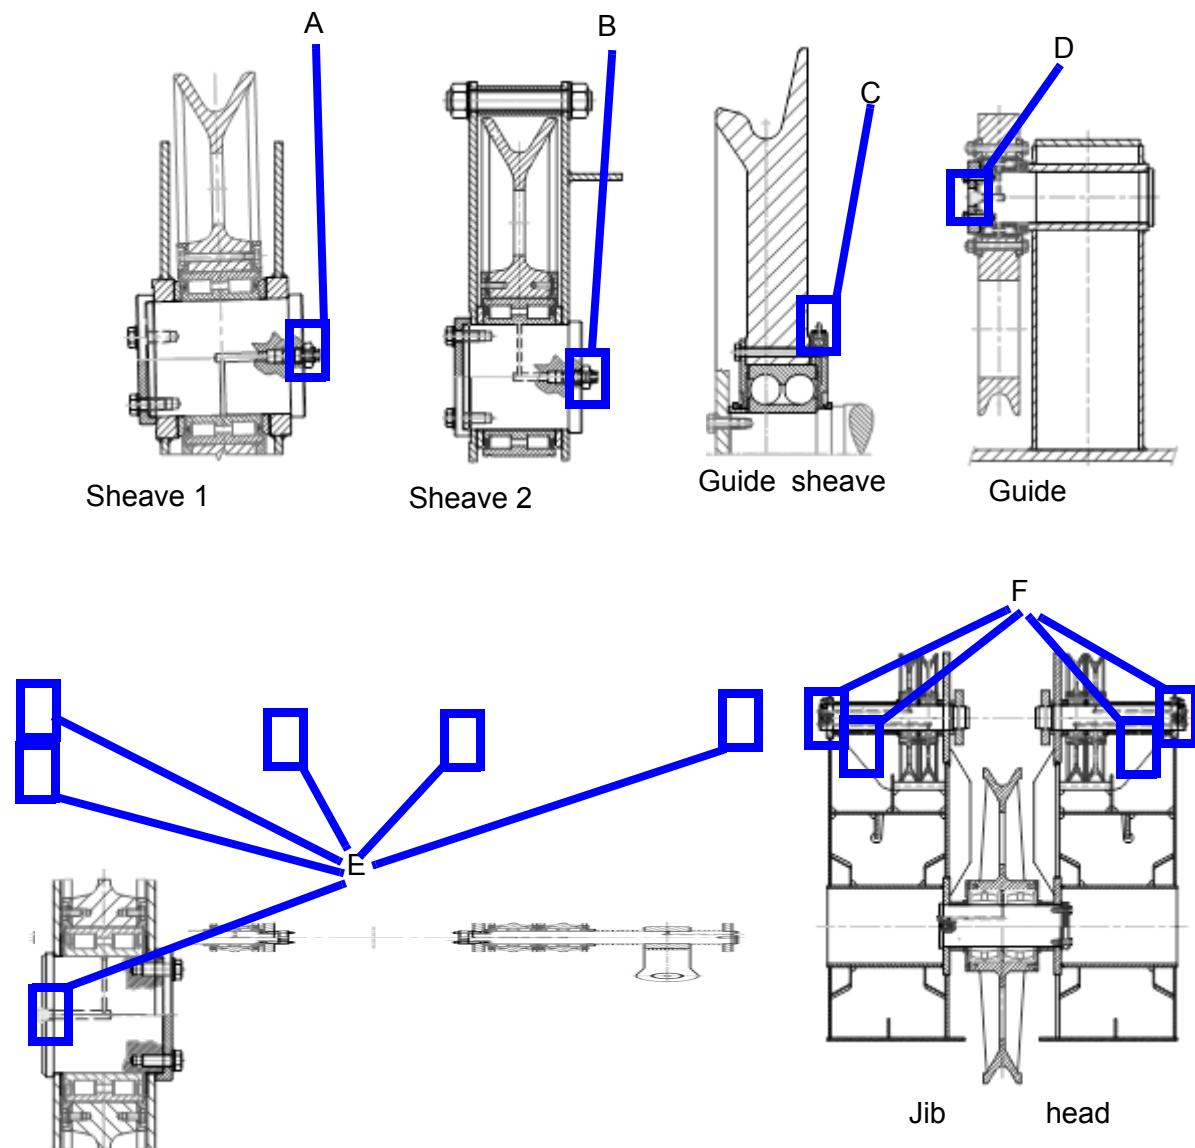

Figure 7-103: Boom hoist sheaves - Greasing points
- Grease the sheaves according to the greasing schedule. (For the location of grease nipples see Figure 7-103).